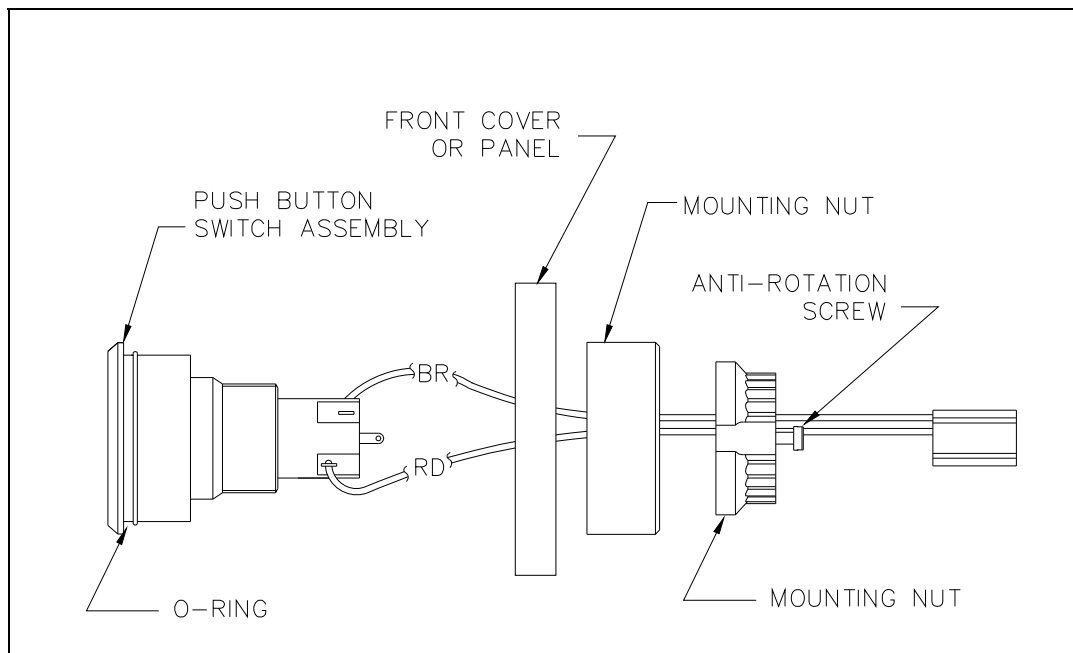

Figure 1. Push-Button Switch Assembly, Exploded View
8. Using the appropriate screwdriver, loosen the anti-rotation screw on the mounting nut. See Figure 1.
1. From the front side of the panel, push the new push-button assembly through the hole. See Figure 1.
2. Secure the push-button assembly to the front cover using the mounting ring and the mounting nut. See Figure 1.
NOTE: Ensure that the O-ring seal is in its proper location, as shown in Figure 1.
2. Secure the push-button assembly to the panel using the mounting ring and the mounting nut. See Figure 1.